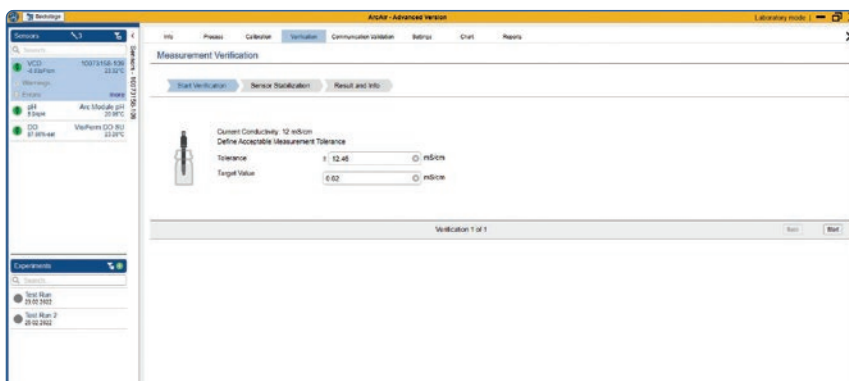

Figure 55: Sensor Verification.
- 2) Go to the «Verification» (Figure 55)